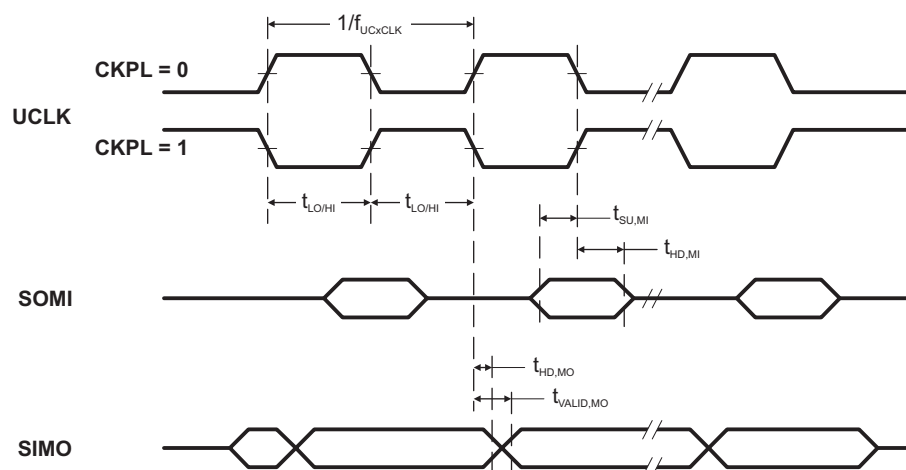
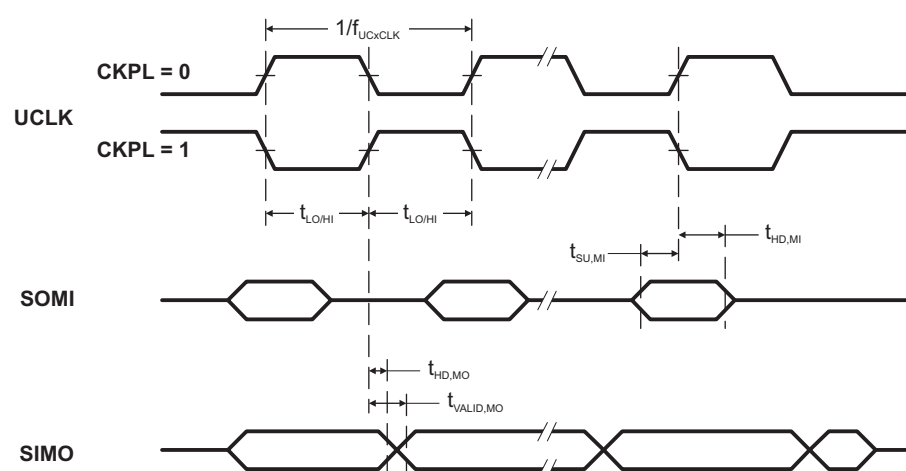

Figure 13. SPI Master Mode, CKPH = 0
Figure 14. SPI Master Mode, CKPH = 1
(see Note ⁽¹⁾, Figure 13 and Figure 14)
(2) Specifies the time to drive the next valid data to the SIMO output after the output changing UCLK clock edge. See the timing diagrams in Figure 13 and Figure 14.
(3) Specifies how long data on the SIMO output is valid after the output changing UCLK clock edge. Negative values indicate that the data on the SIMO output can become invalid before the output changing clock edge observed on UCLK. See the timing diagrams in Figure 13 and Figure 14.
(2) Specifies the time to drive the next valid data to the SOMI output after the output changing UCLK clock edge. See the timing diagrams in Figure 13 and Figure 14.
(3) Specifies how long data on the SOMI output is valid after the output changing UCLK clock edge. See the timing diagrams in Figure 13 and Figure 14.